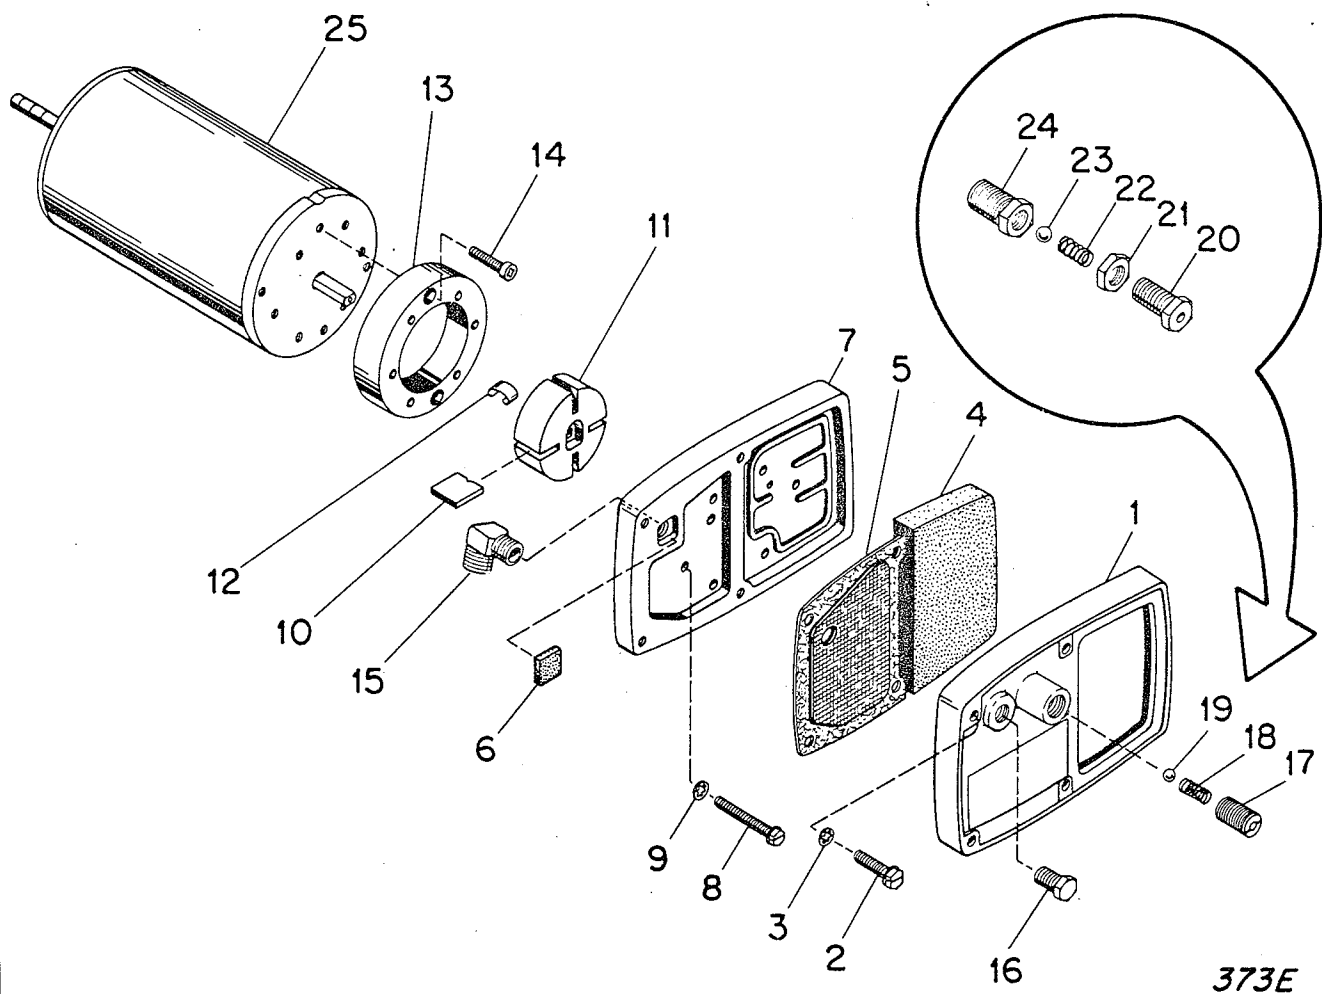

Figure 6. Motor Package Assembly
a. Remove the four screws (2), fig. 6, lockwashers (3), and cover (1). Take out the output filter (5), intake filter (4), and the lint filter (6). Wash filters with a mild detergent. Dry thoroughly and replace filters, cover and screws.